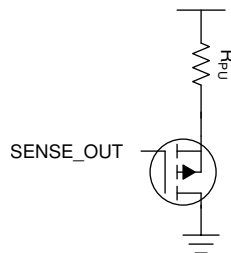

Figure 8-7. Additional Components for the PG Pin to be Pulled Up to Another Rail
Because the power-good (PG) pin is pulled up internally to the output rail, this pin cannot be pulled up to any voltage or wire AND'd like a typical open-drain PG output can be. If this signal must be pulled up to another logic level then an external circuit can be implemented using a PMOS transistor and a pullup resistor. Implementing the circuit shown in Figure 8-7 allows the outputs to be pulled up to any logic rail. If a PMOS transistor is used make sure to pick a transistor with a low threshold voltage as this will determine the output low voltage. This can also be done with a NMOS transistor, but it inverts the logic. This implementation also allows the outputs to be AND'd together like the traditional power-good pins.